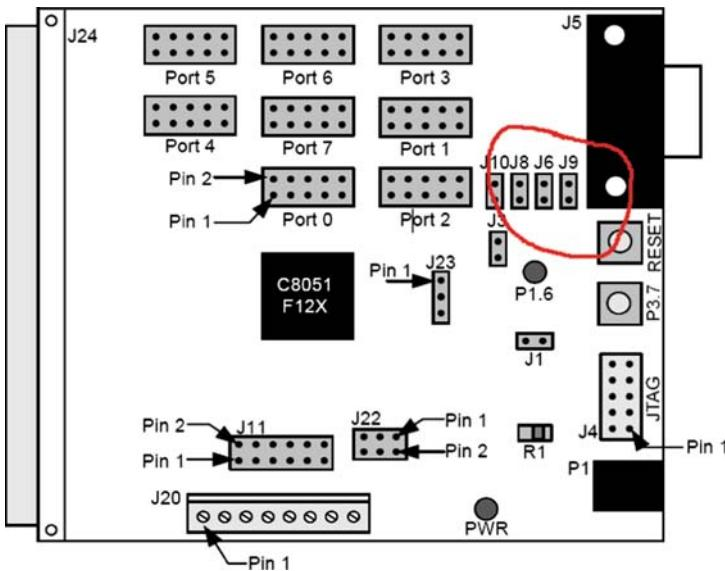

Fig. 8.21 8051 MCU Board Jumper Locations
8. Make sure that J6 and J9 have jumpers installed. They are installed by default from the factory. See Figure 8.21 for jumper locations.